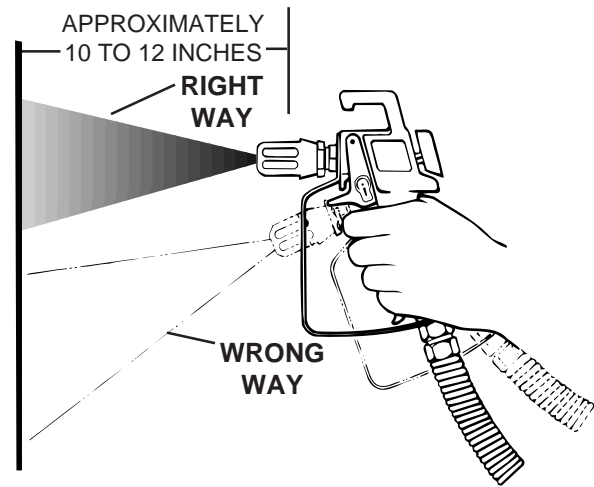

Figure 10.-Right and Wrong ways to Hold Spray Gun Toward Work.
- Keep the spray gun perpendicular to the work as shown in Figure 10.